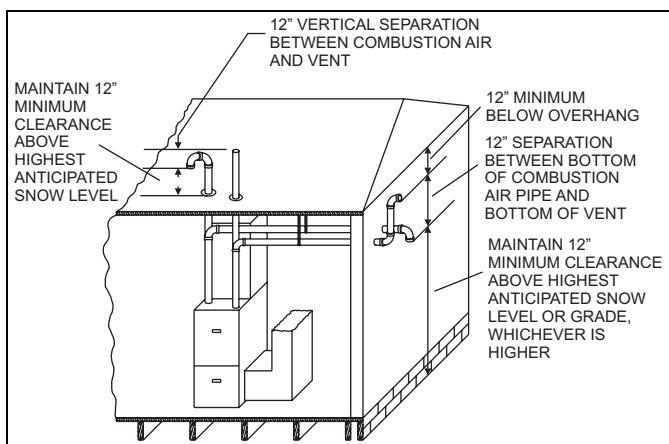

FIGURE 14: Termination Configuration - 2 Pipe
7. Sealed combustion air systems must be installed so the vent and the combustion air pipes terminate in the same atmospheric zone. Refer to Figures 14, 15 or 16.
6. Sealed combustion air systems must be installed so the vent and the combustion air pipes terminate in the same atmospheric zone. Refer to Figures 14, 15 or 17.